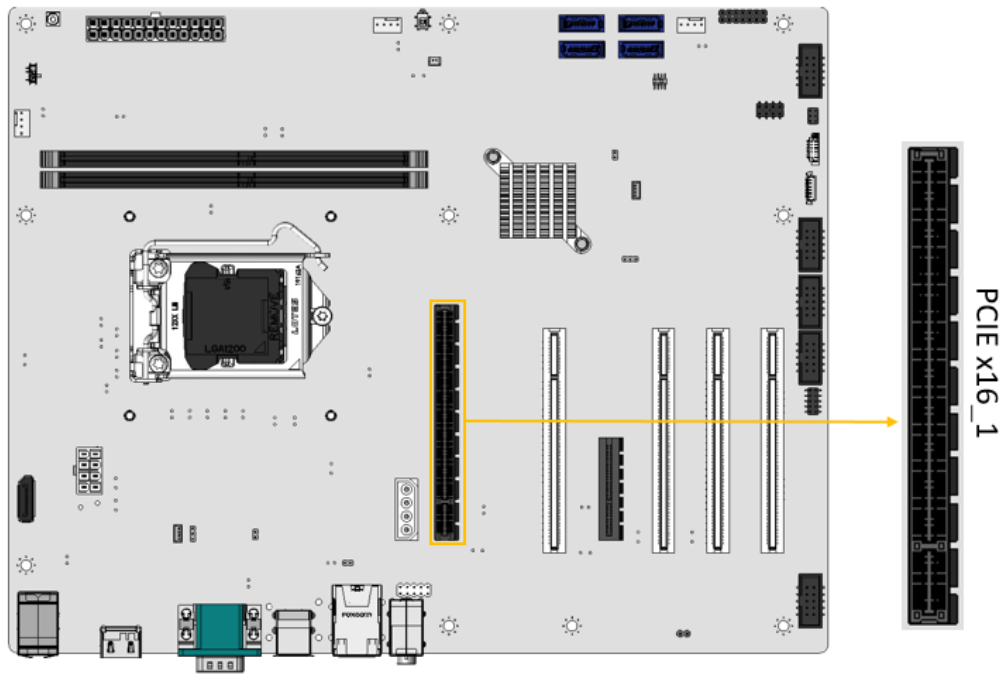

Figure 3-19: PCIe x16 Slot Locations
- CN Location:** See **Figure 3-19**